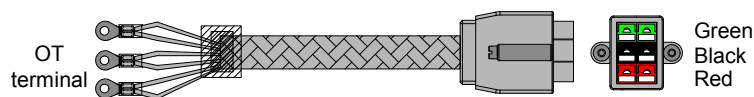

Figure 2-25 Battery cable B
The long back-up UPS provides a battery cable B (length: 1.5m), which has a PP45 plug at one end, and three OT terminals at the other end, as shown in Figure 2-25. It is used to connect the battery cabinet to the UPS.
4. Insert the PP45 plug into the battery port on the rear panel of the UPS, as shown in Figure 2-25.